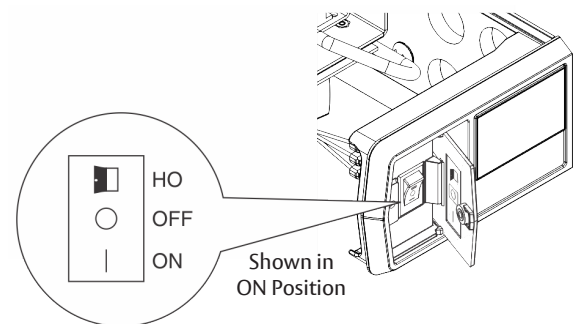

Figure 3
5. Confirm ON/OFF/HO switch is in the ON position. (Figure 3)